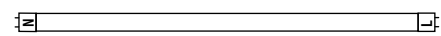

Fig. 2
6. Make sure to connect the line (L) and neutral (N) to the corresponding ends of the tube marked L and N. (Fig. 2)